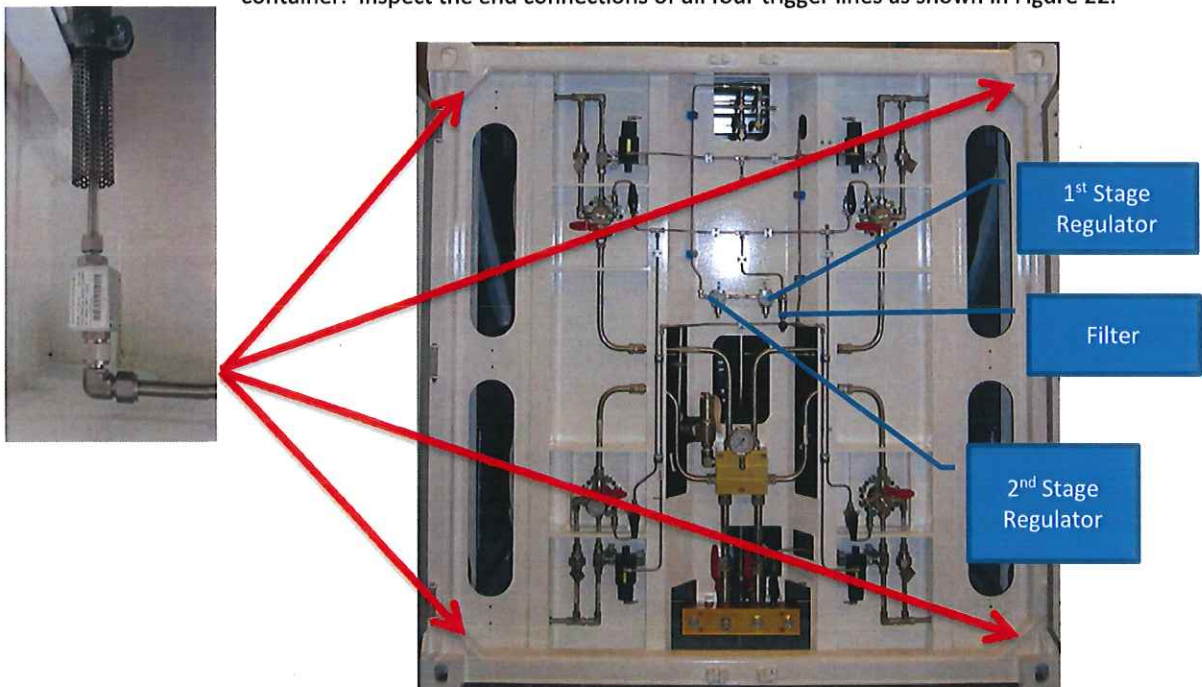

Figure 22: Gas Venting System Inspection
1. Inspect the PRD trigger line for indications of damage. Note that these are only visible at the ends of the container. Inspect the end connections of all four trigger lines as shown in Figure 22.